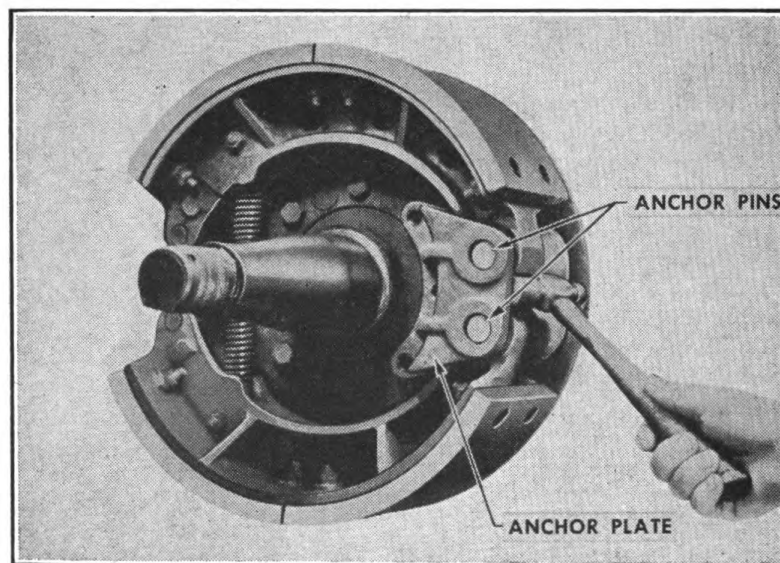

FIGURE 27. REMOVING BRAKE SHOES.
(2) Tap the anchor pin bracket free of the anchor pins and pull both shoes off cam and anchor pins (Fig. 27).
(3) Remove the brake shoe return spring by removing the bolt holding it to each shoe.
(4) To install, reverse the procedure outlined above after cleaning the S-cam and anchor pins; spread a thin coat of grease over both.